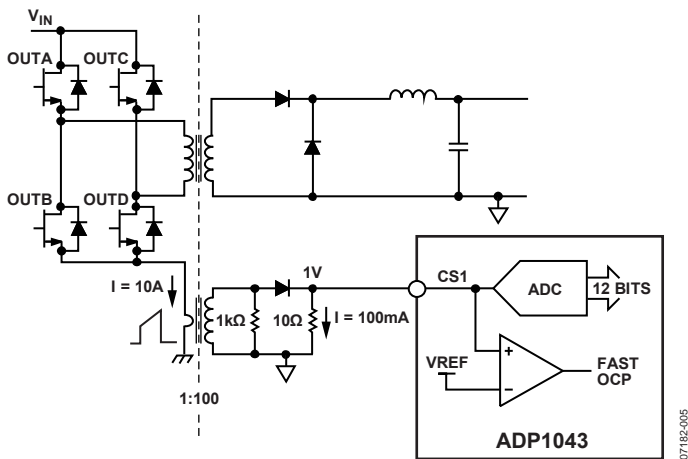

Figure 4. Current Sense 1 (CS1) Operation
CS1 is typically used for the monitoring and protection of the primary side current. This is commonly known as the current transformer (CT) method of current sensing. The input signal at the CS1 pin is fed into an ADC for current monitoring. The range of the ADC is 0 V to 1.58 V. The input signal is also fed into a comparator for fast OCP protection. The typical configuration for the current sense is shown in Figure 4.